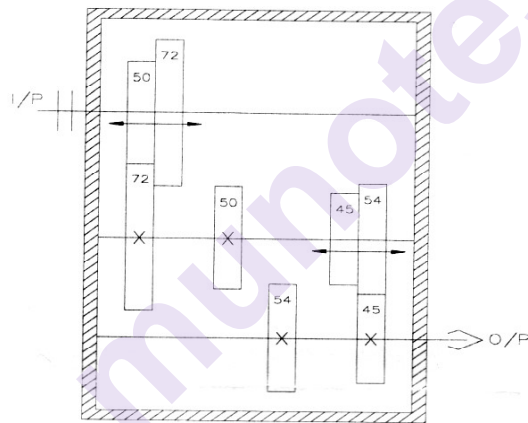

Figure.1
- Q1) a)** Figure 1 shows gearing diagram of a multispeed gearbox with number of teeth on each gear as specified. Speed of input shaft is 700 RPM. Answer the following questions based on the figure. [4]